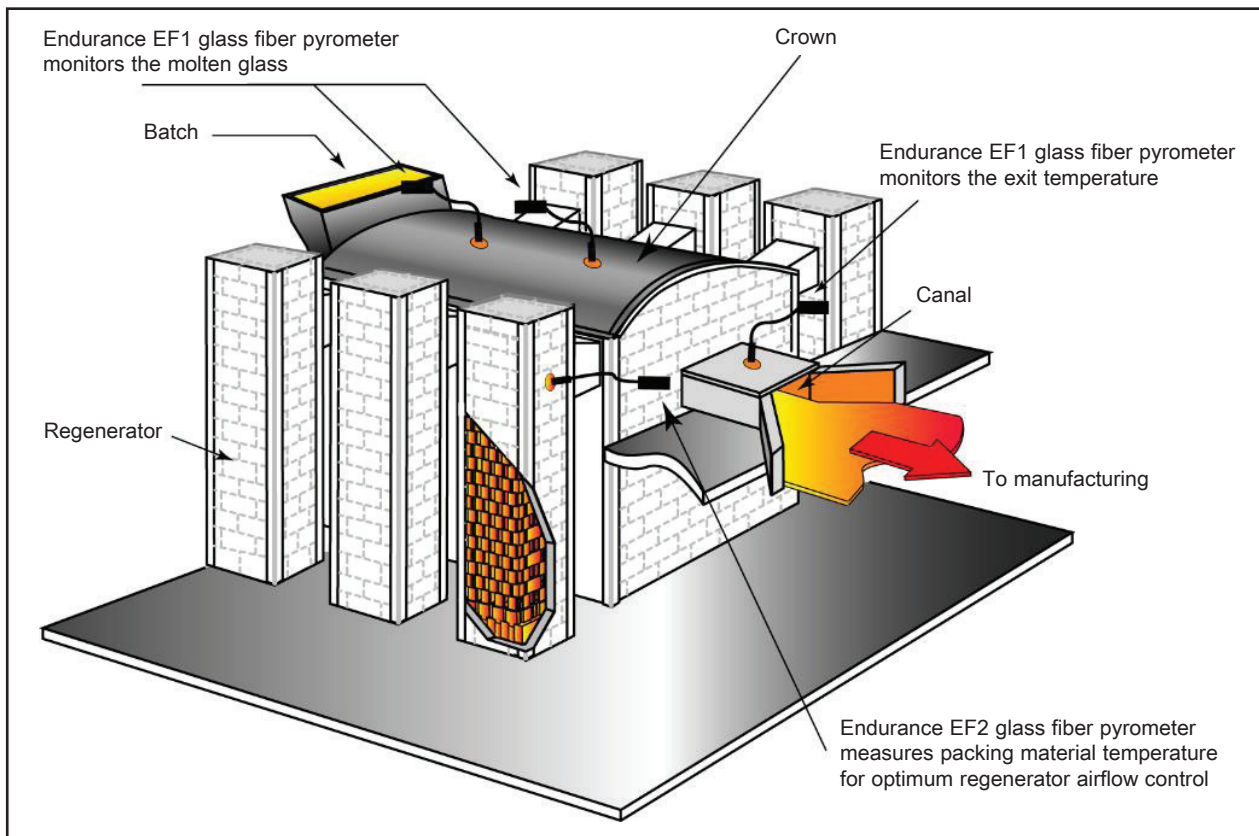

Fig. 1: Temperature Measurement at the Melt Furnace and Regenerators
1. Endurance EF1M for temperature monitoring of the molten glass inside the furnace and at the exit (Fig. 1).
2. Endurance EF2M for detecting the optimum time to reverse the regenerator air-flow (Fig. 1).